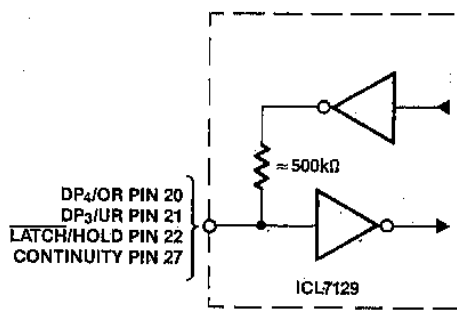

Figure 7. "Weak Output"
Four of the pins of the ICL7129 can be used as either inputs or outputs. The specific pin numbers and functions are described on the Pin Assignments and Functions (Table 1). If the output function of the pin is not desired in an application it can easily be overridden by connecting the pin to V⁺ (HI) or DGND (LO). This connection will not damage the device because the output impedance of these pins is quite high. A simplified schematic of these input/output pins is shown in Figure 7. Since there is approximately 500kΩ in series with the output driver, the pin (when used as an output) can only drive very light loads such as 4000 series, 74CXX-type CMOS logic, or other high input impedance devices. The output drive capability of these four pins is limited to 3μA, nominally.